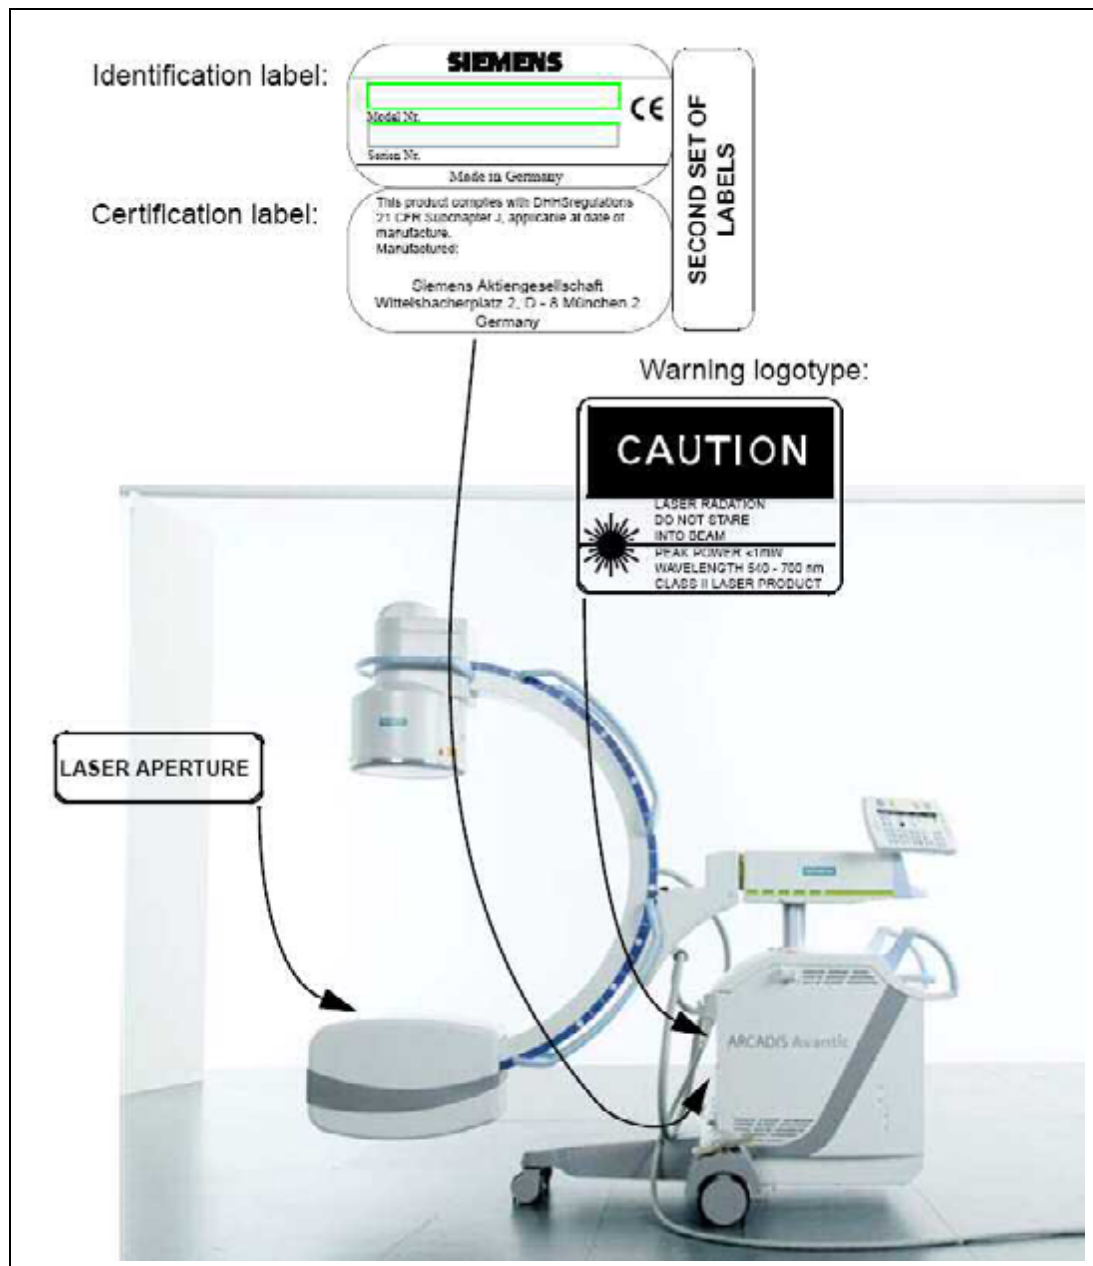
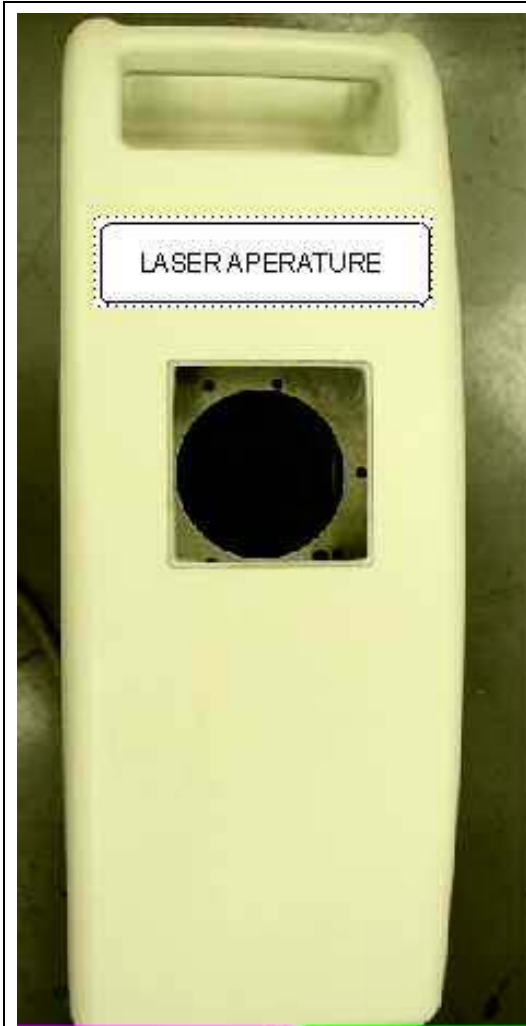

Fig. 4: Stickers_other_countries
Fig. 5: Sticker_laser aperture
- Visually inspect the identification labels, warning logo type "Laser class 2", DHHS certification label, and the laser aperture label as in (Fig. 4 / p. 13) and (Fig. 5 / p. 14).
Great Britain: Check the warning label according to IEC 825 (text) in the local language, the warning label according to IEC 825 (symbol) and the identification label. Also check the laser aperture labels (Fig. 5 / p. 14).